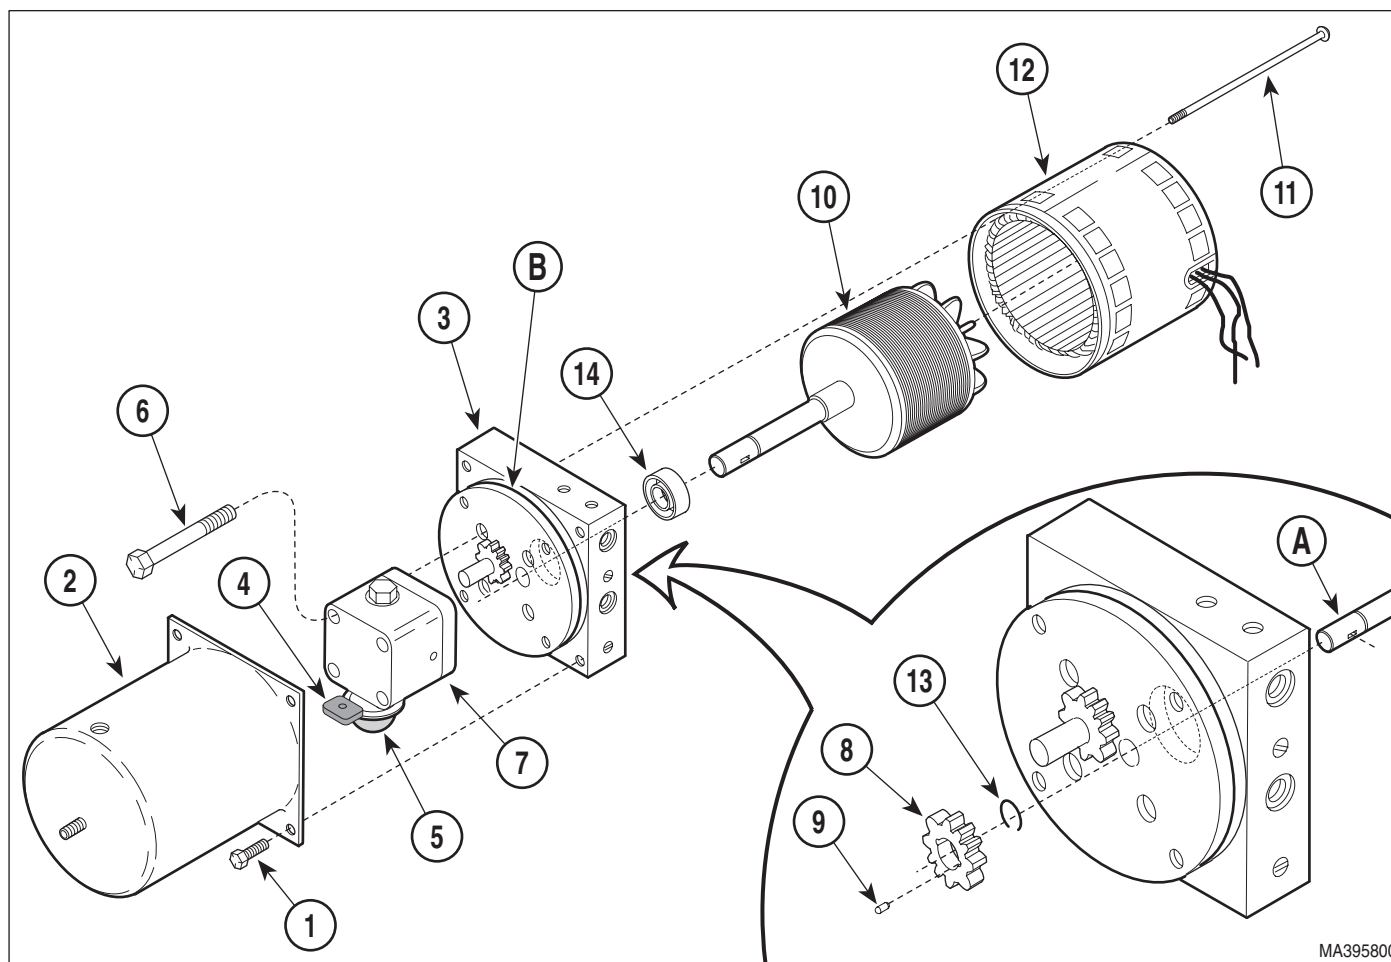

**Figure 4-10. Motor Shaft Seal
- (3) Remove four screws (1, Figure 4-10) and reservoir (2) from manifold block (3).
- (4) Remove magnet (4) from strainer (5).
- (5) Remove four screws (6) and pump housing (7) from manifold block (3).
- (6) Remove pump gear (8) and woodruff key (9) from shaft of rotor assembly (10).
- (7) Remove four screws (11) and motor housing (12) from manifold block (3).
- (8) Push rotor assembly (10) inward toward manifold block (3); then remove retaining ring (13) from end of rotor assembly shaft (A).
- (9) Remove rotor assembly (10) from manifold block (3).
- (10) Using a screwdriver, pry motor shaft seal (14) out of manifold block (3).